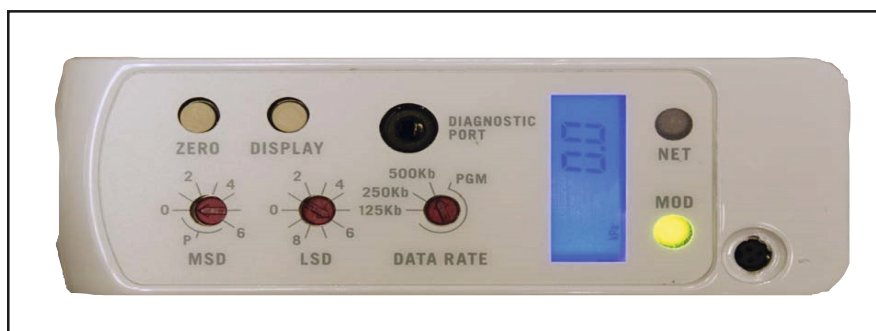

Figure 2-10 % Flow Display Set to Zero
3. Press and hold down the Zero button for a minimum of 5 seconds or until the “%FS” display reads 0.0 as shown in Figure 2-10. The %FS label will flash during this procedure.